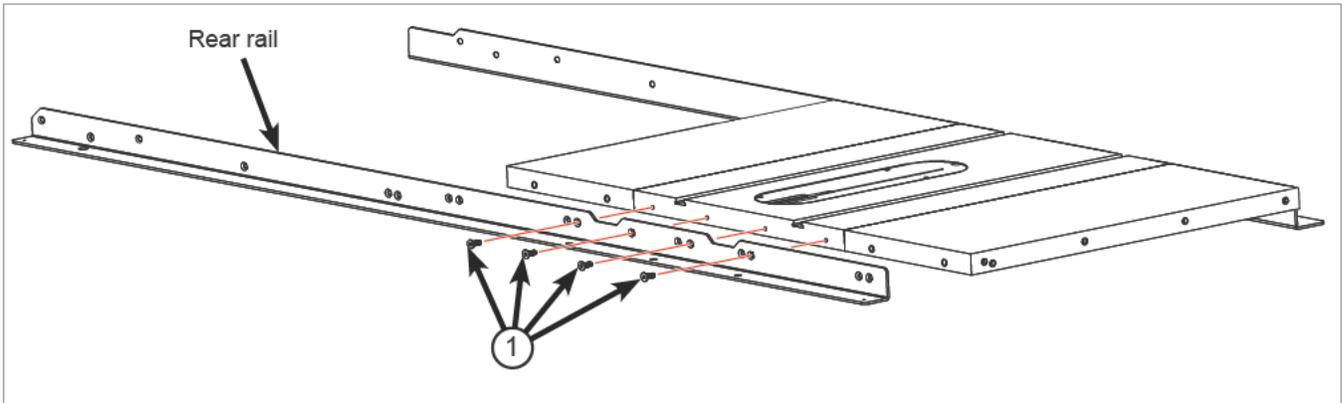

Fig. 6
- Begin mounting the rear rail (the shorter of the two rails) to the rear edge of your saw by centering the notches in the rail with the two miter slots in the table and aligning the left-most hole between the notches with the corresponding hole in the rear edge of the table (See Fig. 6). There are three holes in the rail between the notches, one solitary hole and two holes paired together, and the left-most hole is the solitary hole. Not all the holes are used to mount the rail to your saw; different holes are used for different saws. Aligning the left-most hole aligns all the other holes used in mounting the rail to your saw. When the holes are aligned, mount the rail to the saw by threading an M8 x 16 countersunk socket head bolt (1) into each of the four open holes in the rear edge of the table and tighten the bolts using a 5 mm hex key.